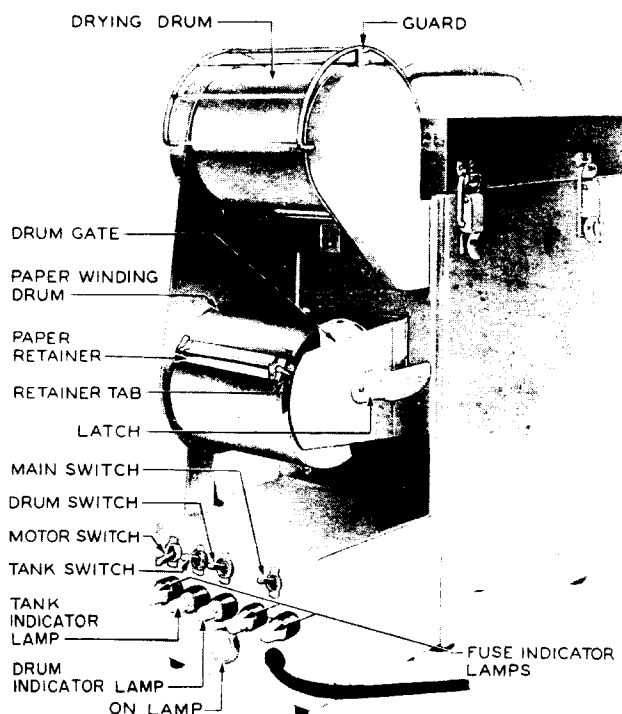

Fig. 13 - Photo Processor - End View
6.09 Move the main switch to its ON (upper) position and check that the ON lamp lights (Fig. 13). Move the tank switch to its ON (upper) position. If the tank indicator lamp lights at this time, the temperature of the water used to fill the tank, as covered in 6.06, was probably excessive. In this case, refill the tank with cooler water and observe that the lamp does not light upon operation of the switch. When, after an interval following operation of the switch, the tank indicator lamp lights, proceed with the processing of the paper, as covered in Part 7.
7.03 Make sure that the paper retainer on the winding drum is in an accessible position as shown in Fig. 13. If necessary, run the motor by operating the motor switch to bring the drum to the required position. Swing the drum gate latch upward and swing the gate away from the end of the drum. Place a finger behind the paper retainer tab and remove the retainer from the drum. Swing the guard away from the drying drum.